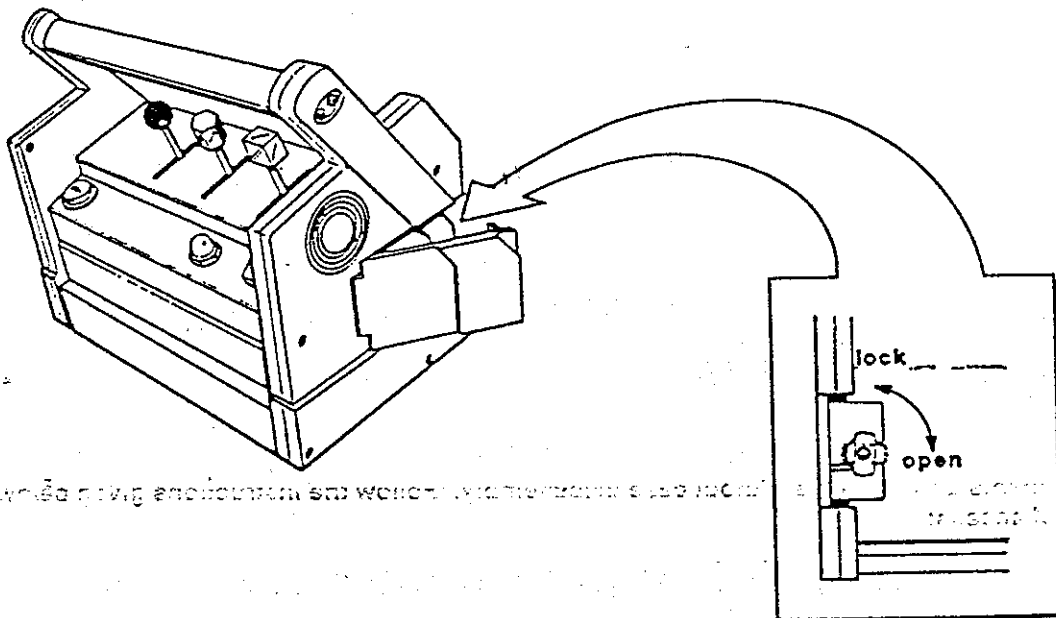

Fig 1 LTX Battery Compartment
2. Battery compartment is located on right-hand side of Transmitter Unit (as viewed from normal operating position; see Fig. 1).
3. Open compartment door by rotating latch to horizontal position, as shown in Fig. 1.